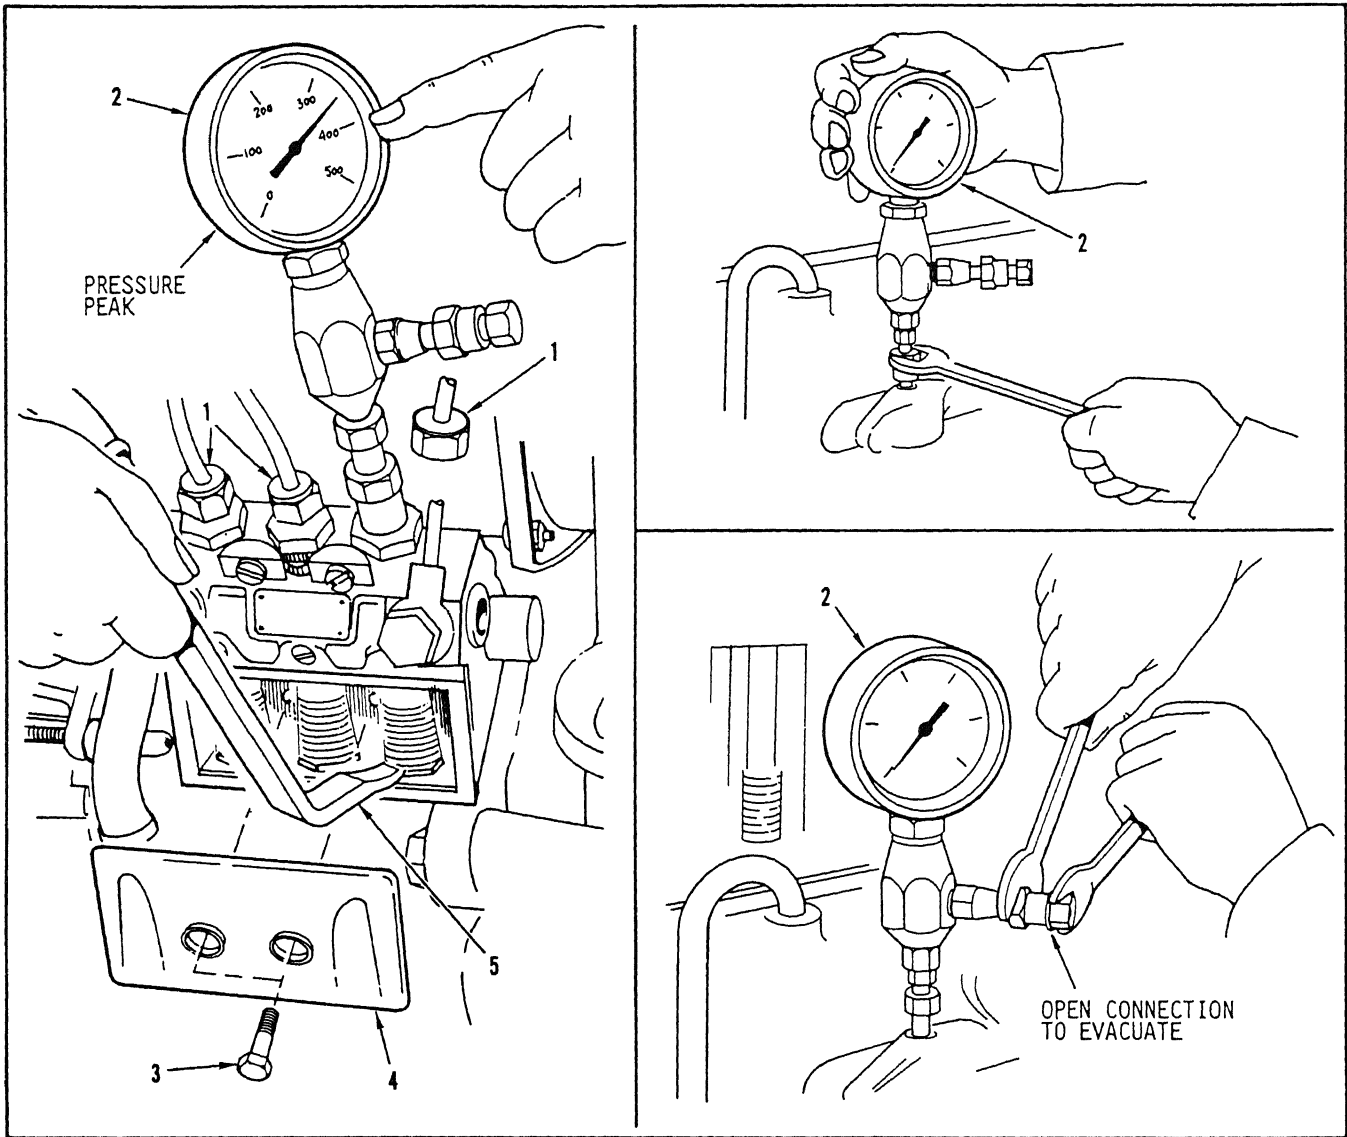

Figure 5-45. Testing Injection Pump
- (3) Loosen the three injection lines (1, figure 5-45).
- (4) Remove overflow valve (by larger hex) from injection pump, and loosely install a plug previous to bleeding air from this port. Upon evacuation of air, tighten plug.